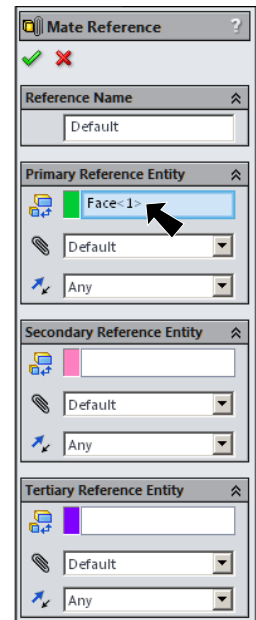

Fig. 7
Step 3. In the Mate Reference Property Manager click OK , Fig. 7.